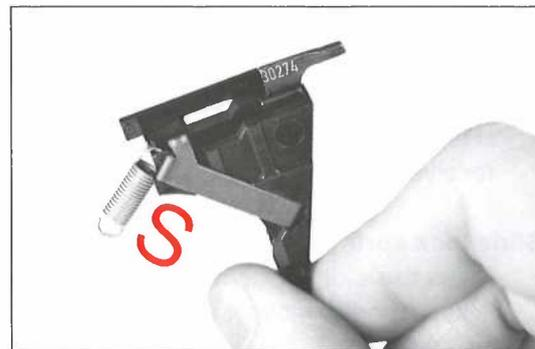

Fig. 99
- If using the standard “S” shaped trigger spring, hook one end through the hole in the top of the trigger mechanism housing and the other end through the hole on the bottom leg of the trigger bar. If viewed from the right and oriented correctly, the trigger spring should resemble an “S”. (Fig. 99/100)